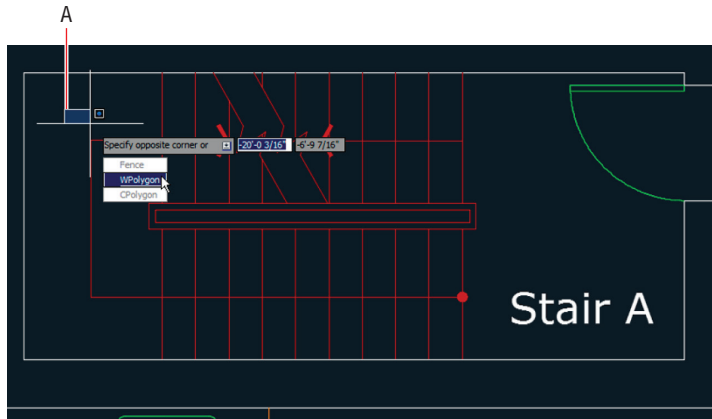

FIGURE 4.5 Selecting WPolygon selection mode from the Dynamic Input menu
1. Click point A, as shown in Figure 4.5. Press the down-arrow key to expand the Dynamic Input menu onscreen. Select WPolygon.